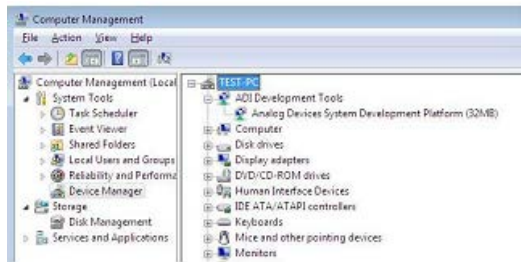

Figure 12. Checking if the **SDP** Board is Connected to the PC Correctly
- c. The **Computer Management** window appears. Click **Device Manager** from the **System Tools** list (see Figure 12).